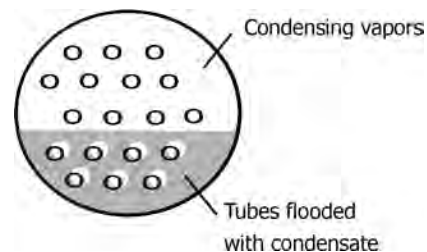

FIGURE 11.1 Illustration showing condensate backup.
- Subcooling leads to creation of a pool of stagnant liquid in condenser bottom (Figure 11.1), submerging some tubes whose contact with vapors is thereby cut off. Condensate backup can be due to inadequate drainage of condensate or lack of provision of a condensate well below the exchanger or blockage of condensate outlet or any other reason.